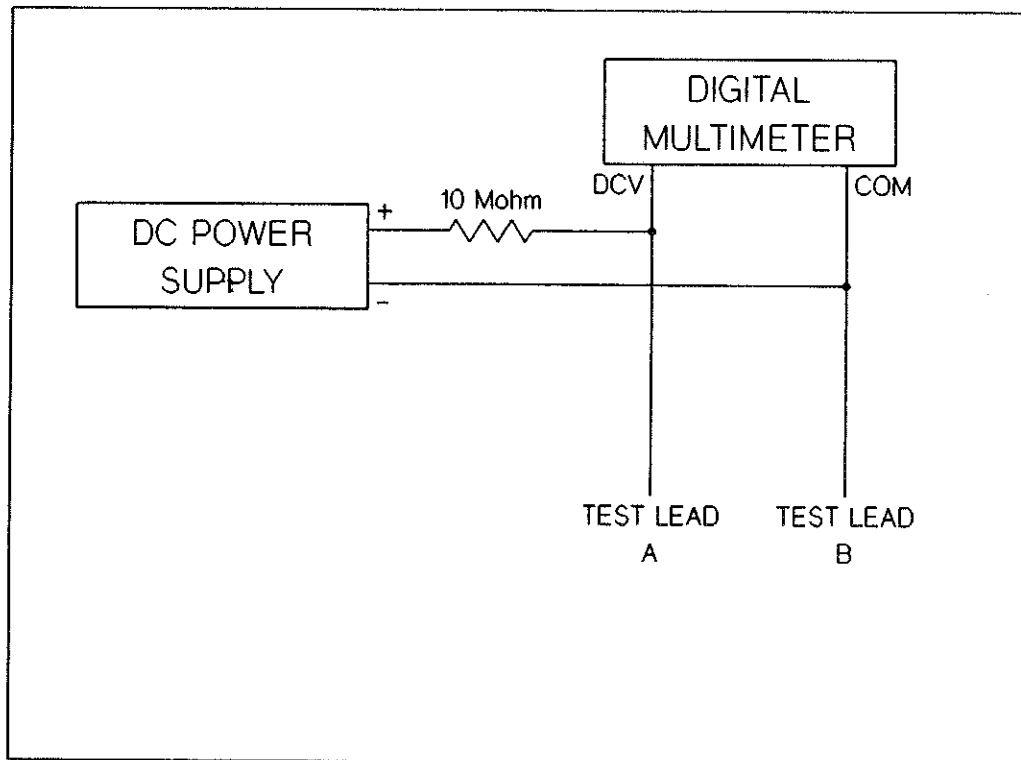

Figure 14-9 HP 44725A DC Isolation Test Set-Up
3. Connect the resistor, power supply and multimeter as shown in Figure 14-9.